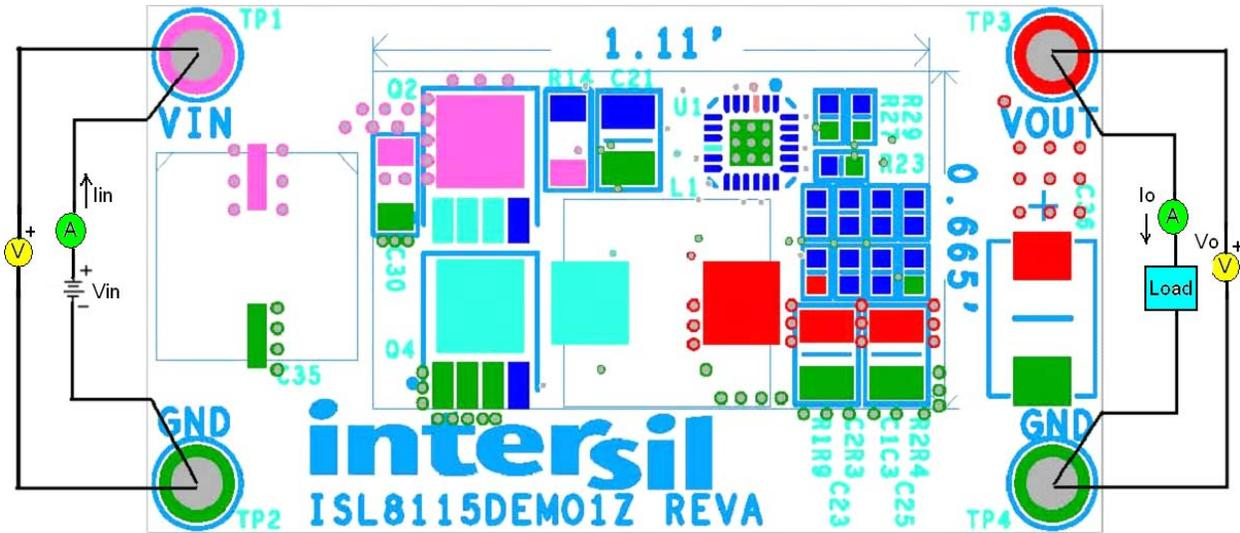

FIGURE 2. ISL8115DEMO1Z TEST SETUP
1. Ensure that the demonstration board is correctly connected to the power supply and the electronic load prior to applying any power. Refer to Figure 2 for proper setup.